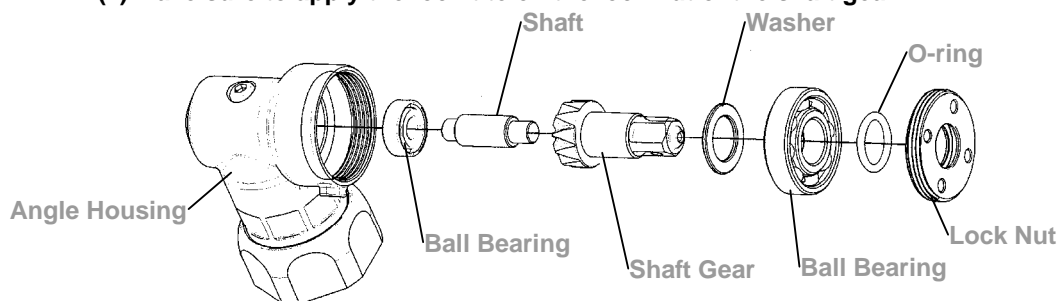

Fig. 372
(8) Angle Housing Unit Assembly:
- ① Assemble the parts in Fig. 372 one by one orderly into the angle housing. Then, fix the angle housing unit. Use the torque wrench and the appliance clockwise to tighten the lock nut of the shaft gear. See Table 51 in reference to the proper appliance selecting.